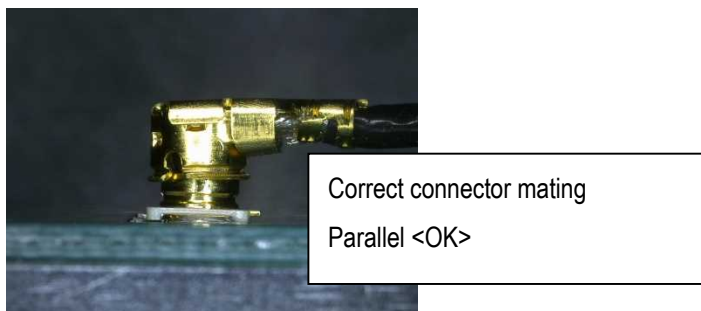

Fig. 5
• Please make sure to set the cable side connector parallel to the board as shown in Fig. 5.